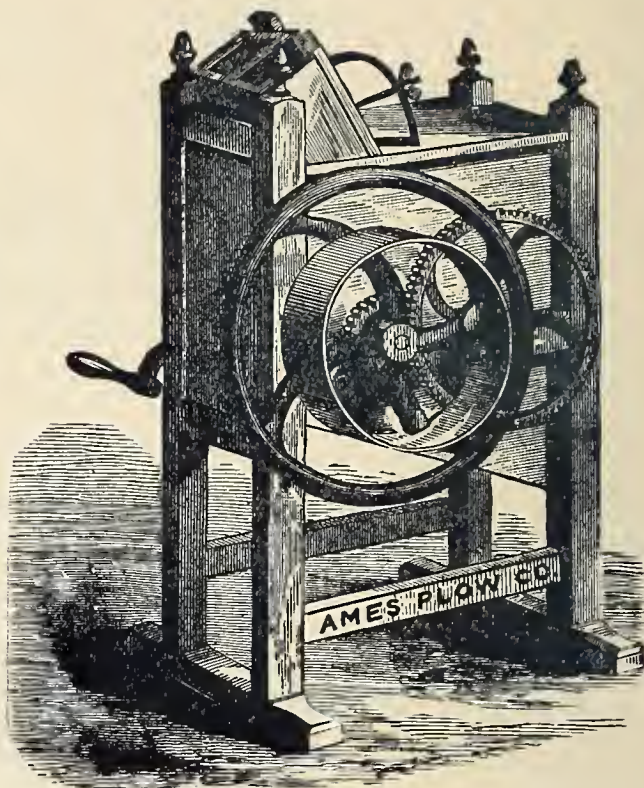

Fig. 410. — Eagle Corn-Sheller.
*The Eagle Corn-Sheller*, represented by *Fig. 410*, is made in same style as the CLINTON, but with much heavier frame and irons, and otherwise materially better. It is made with either one or two hoppers, the former to be worked by hand, and the latter by hand or band power. The extra weight adds much to its durability and the ease of operating it.